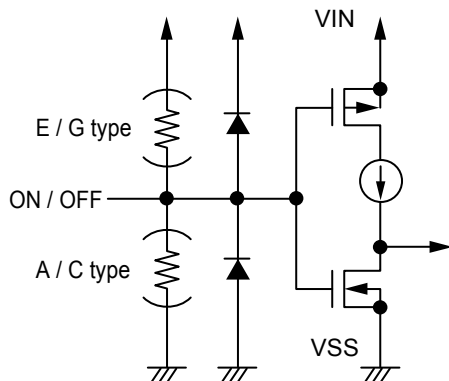

Figure 21
The ON / OFF pin is configured as shown in **Figures 21** and **22**. In the S-1135 Series A / C / E / G type, the ON / OFF pin is internally pulled up to the VIN pin or pulled down to the V_{SS} pin in the floating status, so the VOUT pin is set to the V_{SS} level. In the S-1135 Series B / D / F / H type, the ON / OFF pin is not internally pulled up or pulled down, so do not use the ON / OFF pin in the floating status. When not using the ON / OFF pin, connect it to the VIN pin in the product B / D type, and connect it to the V_{SS} pin in the F / H type.
*1. Note that the IC's current consumption increases as much as current flows into the pull-up / pull-down resistor when; the ON / OFF pin is connected to the VIN pin in the A / C type, the ON / OFF pin is connected to the V_{SS} pin in the E / G type (Refer to **Figure 21**).